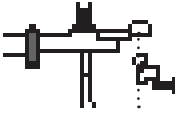

Figure 27
1. With the Fastway hitch head installed, position the hitch ball directly under the trailer coupler. (Figure 27)